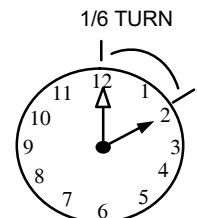

Figure 14. Evacuating Line Set and Indoor Coil
2. Evacuate the system using procedure provided in figure 14.
4. Evacuate the system again using procedure in figure 14.